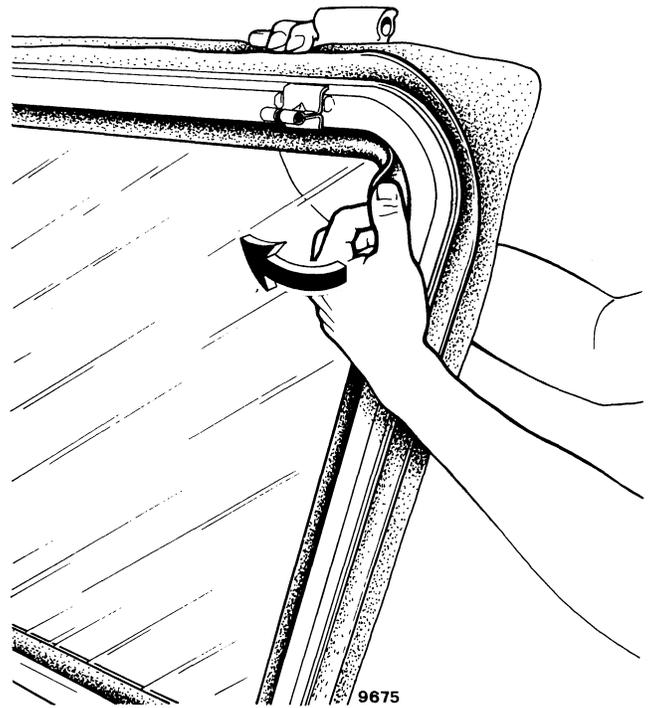

Fig. 8 - Door glass replacement
- From inside raise the seal in one of the top corners and push the glass outwards with the palm of the hand until it is free (Fig. 8).